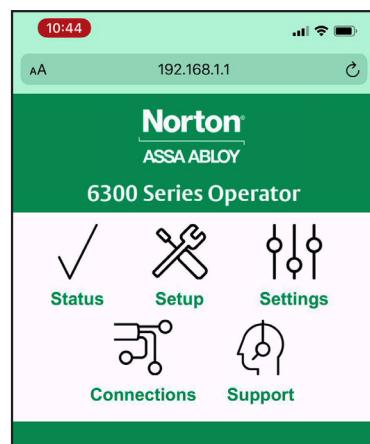

Figure 14
5. The 6300 Series Operator homepage is indication of a successful connection. (Figure 14)